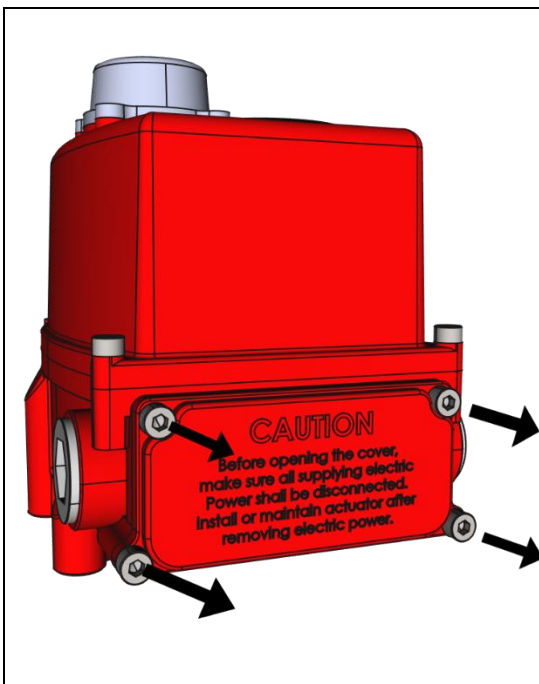
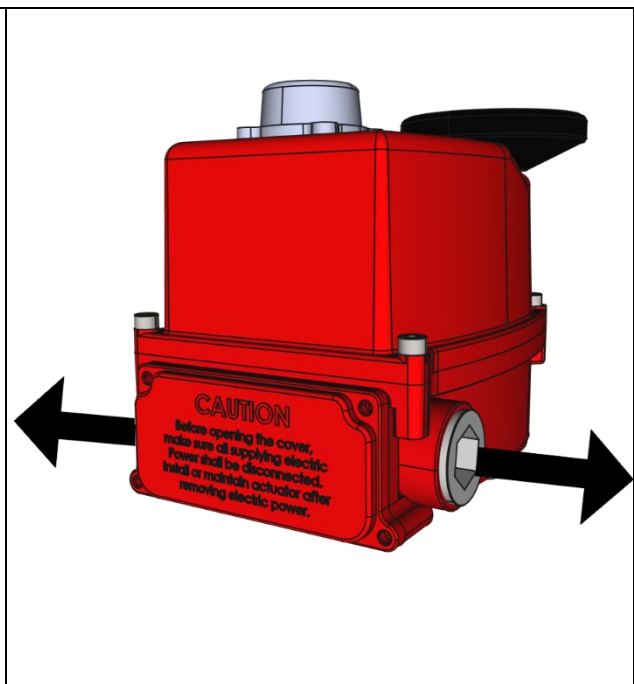

Figure 3: Captive bolts to remove.
Figure 4: Removing the cable glands.
- 2 Loosen the four Captive Bolts of the Terminal Block chamber (Figure 3) and the four captive bolts of the housing cover (Figure 4).
12 Remount the Terminal Block chamber cover and the housing cover with the Captive Bolts (figure 3).